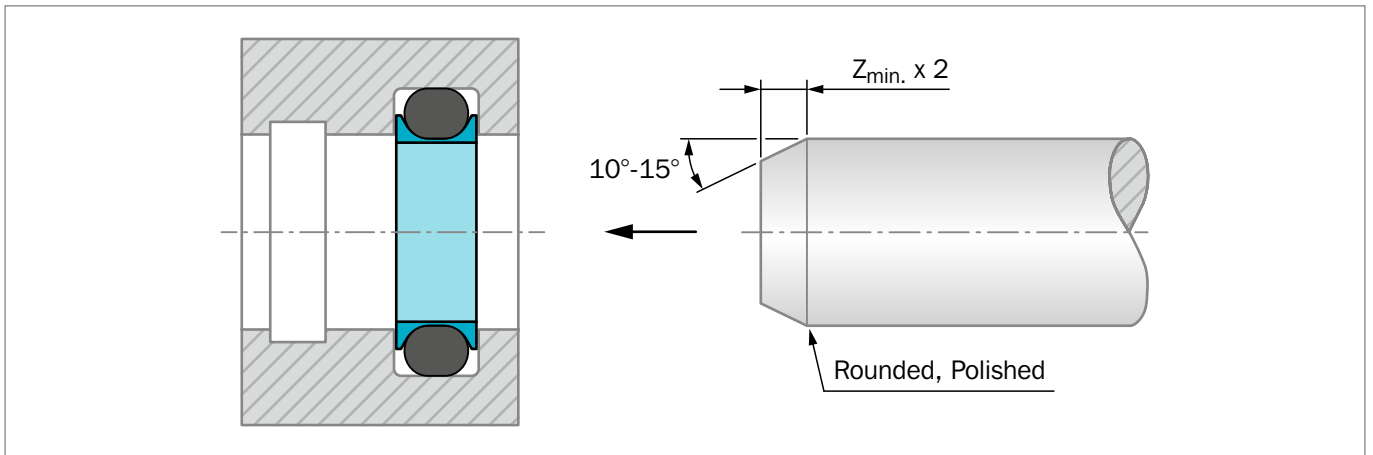

Figure 17: Calibration of the installed seal by means of a calibration mandrel
- Finally, size the seal ring using a mandrel, see Figure 17, which should have a chamfer of 10° to 15° over a minimum length of 2 x lead-in chamfer length  $Z_{min}$  see Table 3